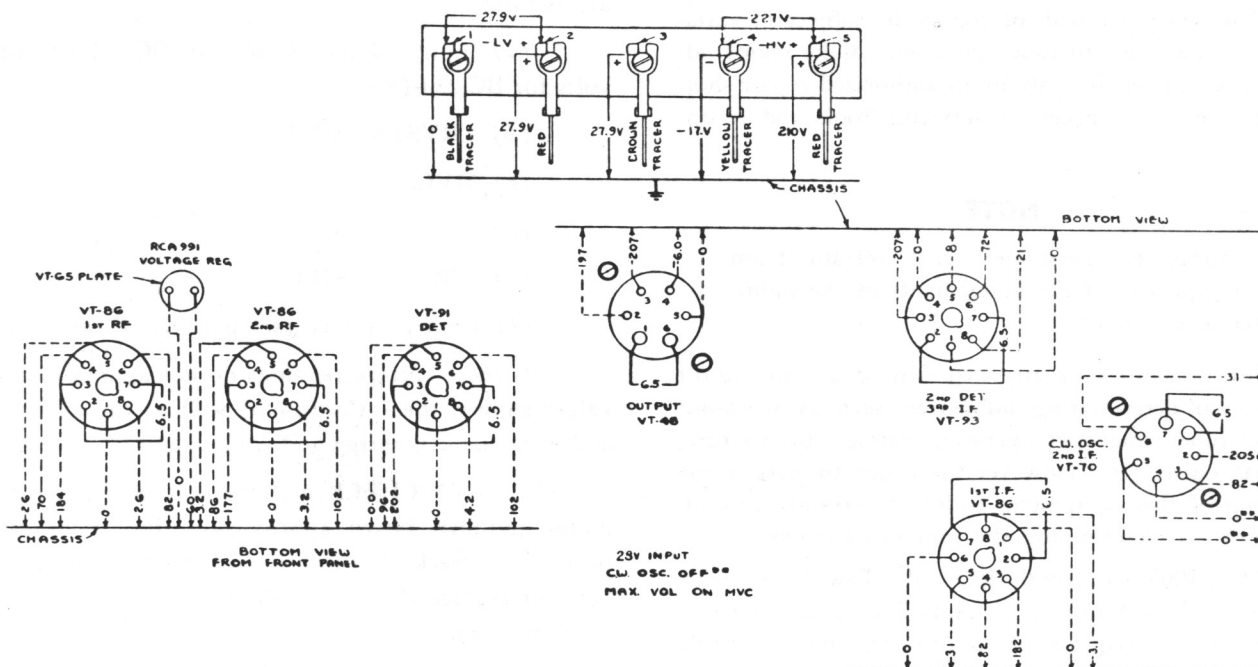

Figure 16—Radio Receiver BC-348-(\*)
When all signals on all bands are weak or no signals are heard when known to be present, follow the procedure shown in the chart. The voltages checked at the dynamotor terminal board should closely approximate the values shown in figure 16. Conditions of measurement are as follows:
(3) CHECK OF SOCKET VOLTAGES.—If tubes check satisfactorily, or if, after replacing with tubes known to be good, the sensitivity is still low, proceed to check all tube socket voltages with Test Set I-56-A as outlined in paragraph 14f. The average socket voltages are given in figure 16.
(4) CHECK CIRCUIT WIRING AND COMPONENTS.—If the tube socket voltages do not approximate the values shown in figure 16, check the associated circuits and components for grounds, shorts and similar defects.
(5) TEST OF AUDIO-FREQUENCY AMPLIFIER.—Having checked all socket voltages and found the values to be correct, proceed to the test of the audio frequency amplifier. This can be checked by capacitively coupling a 400-cycle voltage of approximately 2 volts rms between ground and the detector diode socket prong using a capacitor of 0.5 mfd. As an alternative, a modulated 915-kc signal of 2 volts may be coupled to this point and ground. Proper functioning of the audio amplifier will be indicated by an output well over 10 milliwatts for the 2-volt audio input or approximately 1 milliwatt output for 915-kc input. Check circuits, wiring and components if this order of response is not obtained. The audio signal (modulated) from the I-72 signal generator, approximately 1.2 volts, may be used. An output of approximately 7.5 milliwatts (1.5 volt with a 300 ohm load) will be obtained.
(6) TEST OF I-F AMPLIFIER.—Following a satisfactory test of the audio amplifier, check the inter-